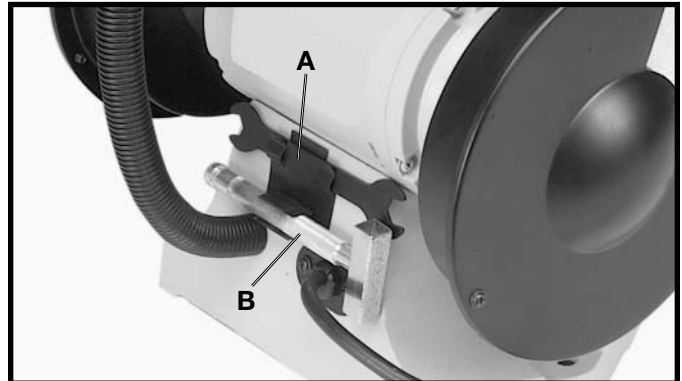

Fig. 13
The open end wrench (A) and the wheel dresser wrench (B) can be stored in the wrench holder located at the rear of the grinder as shown in Fig. 13.